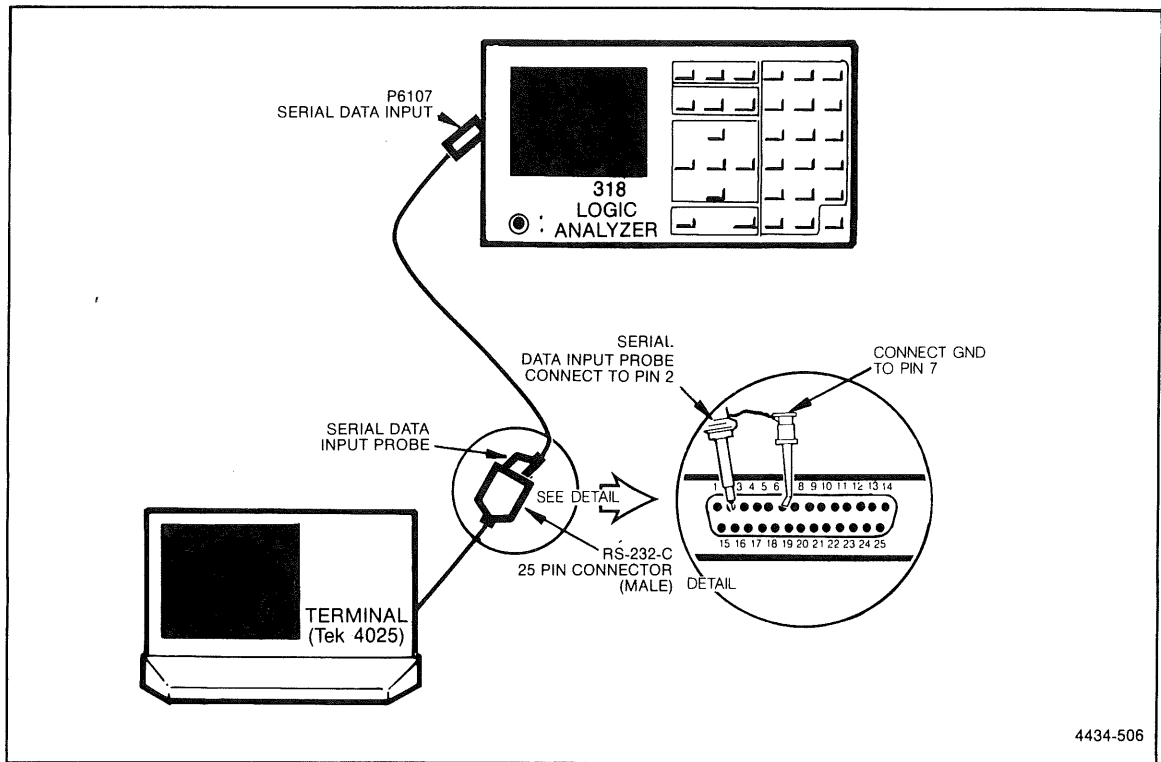

Figure 2-12. 318A Setup for serial data analysis.
- a. Connect the test setup as shown in Figure 2-12.